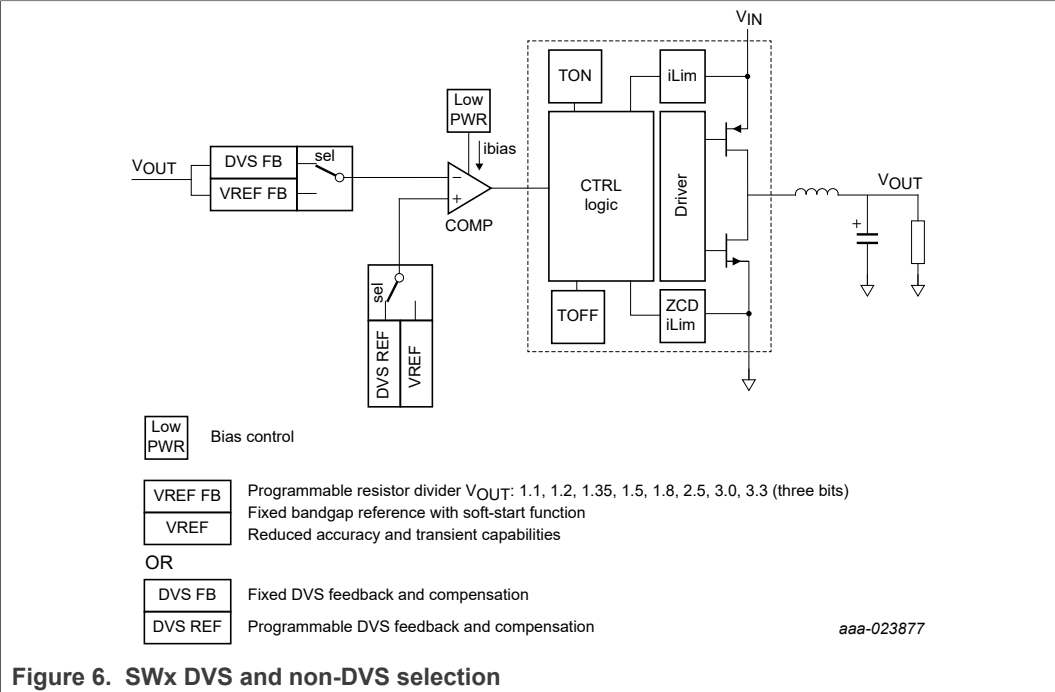

Figure 6. SWx DVS and non-DVS selection
- DVS enabled:** a DVS reference is activated and output accuracy of the regulator is tight at the cost of slightly higher quiescent current. See Section 5.3 "Electrical characteristics" for details. In Figure 6, DVS FB and DVS REF are enabled via OTP for this mode of operation.
- DVS disabled: the regulator operates as a traditional buck converter with a fixed reference and soft-start. The quiescent current in this mode is lower at the cost of output accuracy and transient response. See Section 5.3 "Electrical characteristics" for details. In Figure 6, VREF FB and VREF are enabled via OTP for this mode of operation.